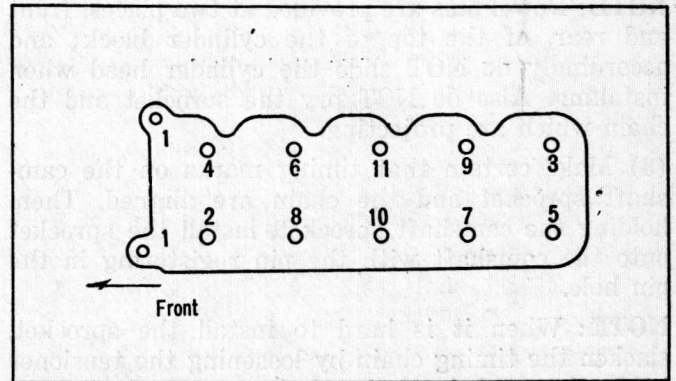
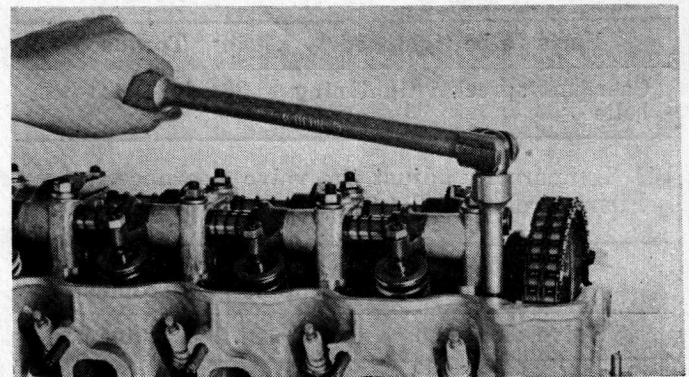

Fig. 34 Head Bolt Removal Sequence
Fig. 35 Loosening Head Bolts
- (3) Remove cylinder head bolts and nuts in the sequence shown in Fig. 34, by using the special tool Head Bolt Wrench shown in Fig. 35 or 5/16" hex (allen) wrench bit socket.